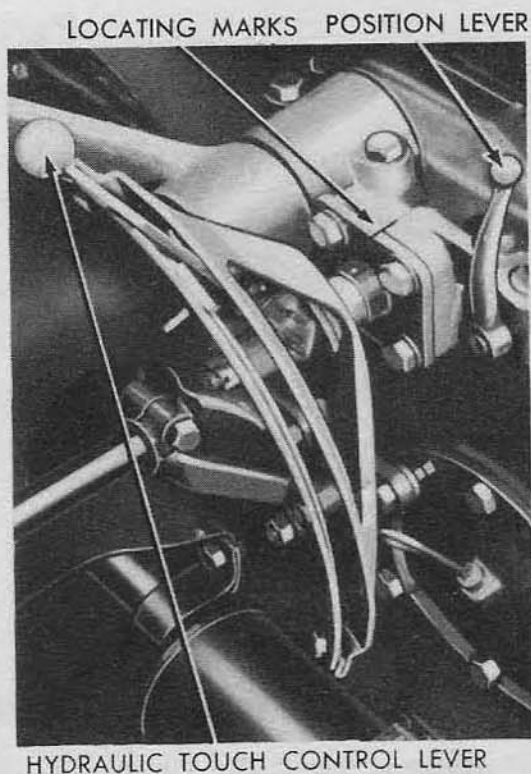

Fig. 68—Quadrant Locking Mark
(3) Examine the top of the quadrant support plate for locating marks as shown in fig. 68.